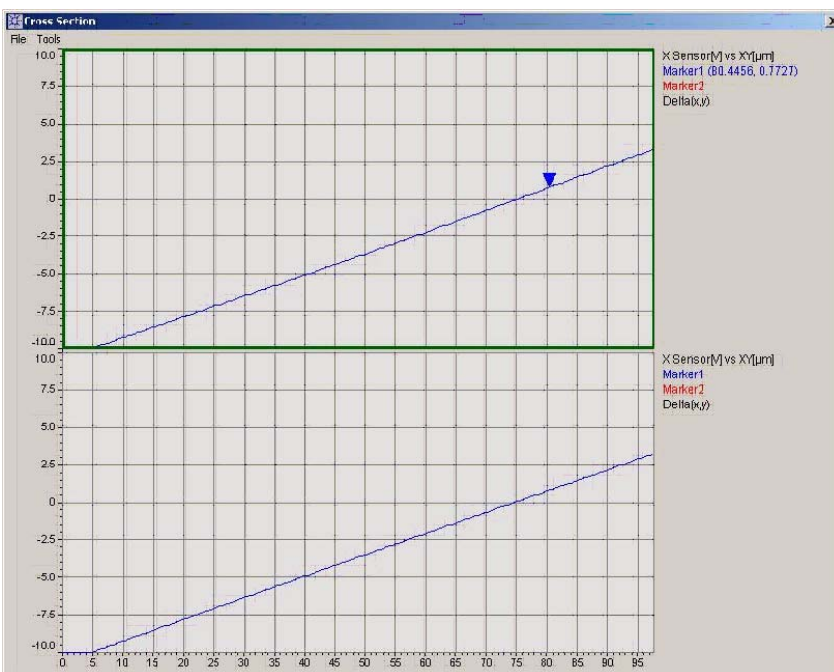

Figure 107 Initial plot before closed-loop scanner calibration
- 10 Click the **Up** or **Down** blue arrows in the **Scan and Motor** window to initiate a scan. When the scan is first started, the graph will probably look similar to that in Figure 107.